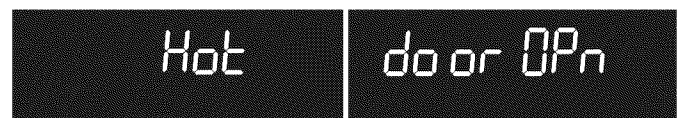

Figure 42: Hot oven door locked (L) door open message (R).
1. CIn message will turn off and Hot will appear in display window (Fig. 42, on page 33).
2. If Self Clean has heated the oven to a high temperature, allow enough time for the oven to cool and the **door Opn** message to appear (See Fig. 42, on page 33). When this message turns off the oven door may be opened.